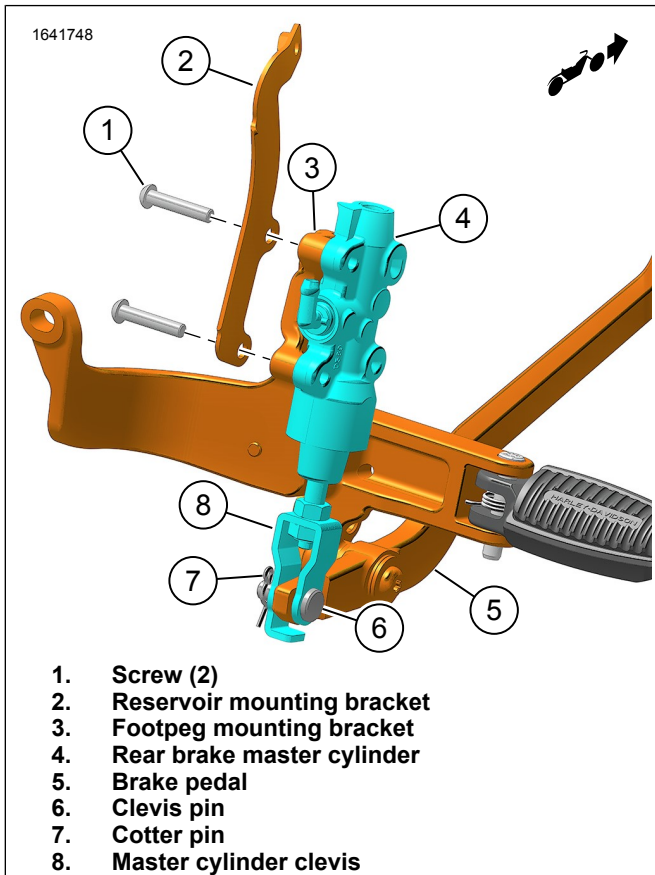

Figure 10. Rear Brake Master Cylinder
2. See Figure 10. Install rear brake master cylinder.
- a. Position reservoir mounting bracket (2) and rear brake master cylinder (4) to footpeg mounting bracket (3).
- b. Install screws (1). Tighten.